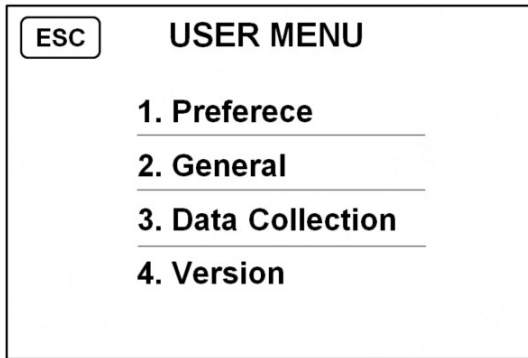
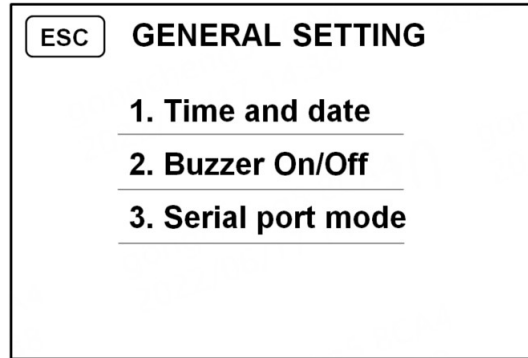
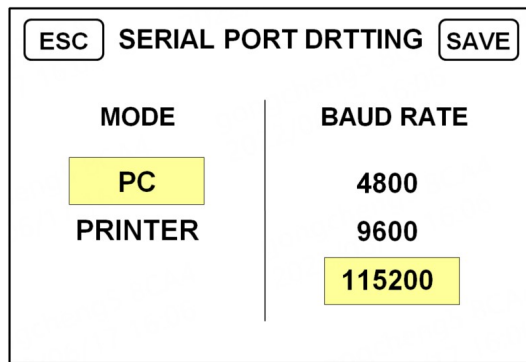

Figure 26
Figure 55
Figure 56
1) Press the **"MENU"** key to enter the USER MENU interface, as shown in Figure 26. Then touch "2. General" to enter the GENERAL SETTING interface as shown in Figure 55:
2) Touch "3. Serial port mode" under the interface in Figure 55 to enter the SERIAL PORT MODE interface as shown in Figure 56.